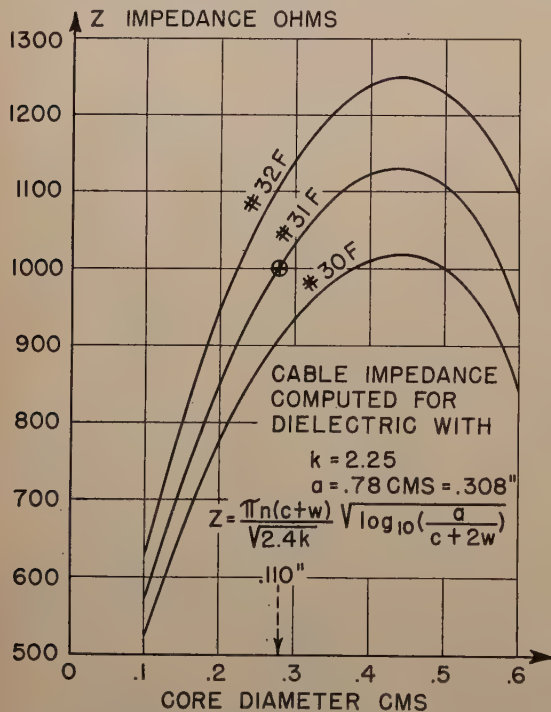

Fig. 6—Cable impedance as function of core diameter.
The impedance and the delay were computed from (6) and (7), on the basis of $a=0.308$ inch and $k=2.25$. They are plotted in Figs. 6 and 7, as a function of the core diameter c . Three curves are presented in each case, computed for coiled inner conductors close-wound with three different wire gauges. They are
Fig. 6 shows that in all cases the impedance goes through a maximum, rising at first linearly with c in the numerator of (7), and then falling with $\sqrt{\log_{10} a/b}$. As can be seen, the maximum in each case is reached at
Judging from Fig. 6, a value of c at, or near, 0.45 centimeters would be a preferred choice yielding maximum impedance, besides maintaining it unchanged with large variations of the core diameter. However, the following other arguments militate against the choice:
A suitable compromise value for the core diameter, $c = 0.28$ centimeter $= 0.110$ inch, is marked in Figs. 6, 7, and 8; it yields an impedance of 89 per cent of the optimum, but the corresponding delay is reduced to 49 per cent, the wire resistance to about 65 per cent, and the outer conductor has then a safe diameter 2.8 times that of the coil. It may be noted that the value of c so determined only depends on the value of a and k , but its choice is not affected if, for example, another impedance is desired. Fig. 6 shows that, in such cases, choice of a different wire gauge, wound on the same core diameter, is the only, and the most efficient, change required. The impedance rises by over 10 per cent each time the wire gauge is made one step higher (finer wire); the delay rises in the same proportion, but the series resistance R